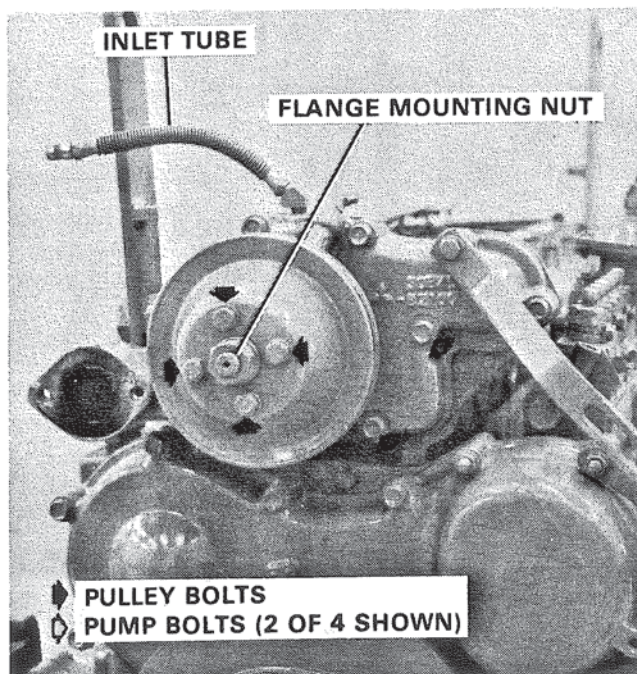

Figure 1. Removing Fresh Water Pump.
The fresh water pump is located at the upper front of the engine. Figure 1.
- A. Loosen flange mounting nut using a 15/16 in wrench. Figure 1.
- B. Remove four (4) pulley mounting bolts using a 1/2 in. wrench. Figure 1.
3. Remove pump from engine by removing four (4) pump mounting bolts. Figure 1.